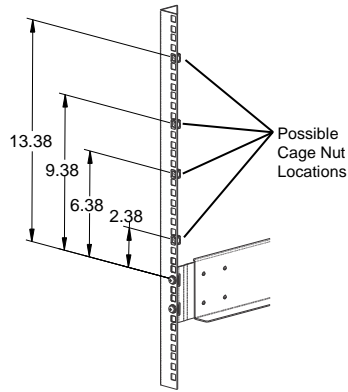

Figure 7-22 Cage Nuts inserted into a Rack Post
12. If the rack rail assemblies are in a new location or the old cage nuts have been removed, use either a tape measure or by counting holes in the rack posts insert one of the supplied cage nuts into the left front rack post as shown in Figure 7-22.